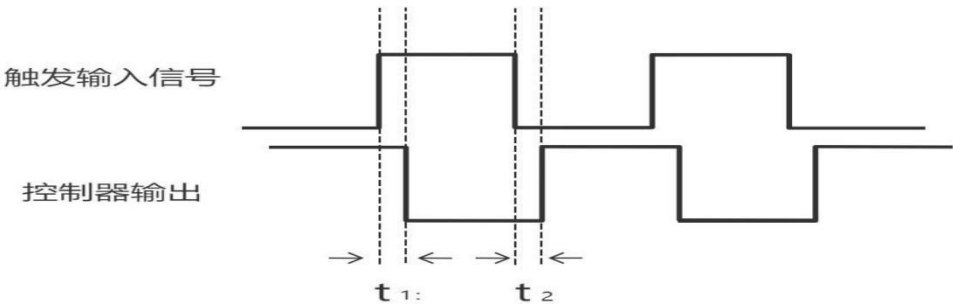

Figure 8 Timing Diagram for Constant On Mode
**Constant On Mode:** When the controller's trigger input signal is valid, the light turns off. The timing relationship (taking high level validity as an example) is shown in Figure 8: